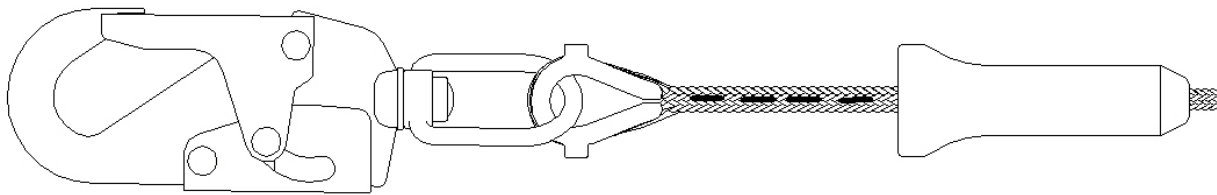

Fig. 5
- Synthetic rope: Check the sewing thread which is inside of the bumper and the plastic thimble. Whenever the sewing thread is damaged, remove the unit from use. See Fig. 5.